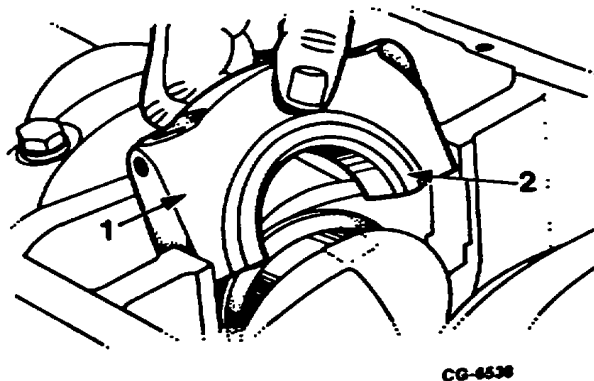

Figure 107. Main Bearing Cap with Thrust Flanges (No. 3)
- 18. The center (No. 3) main bearing cap accommodates a thrust flange to control crankshaft end play (Figure 107).